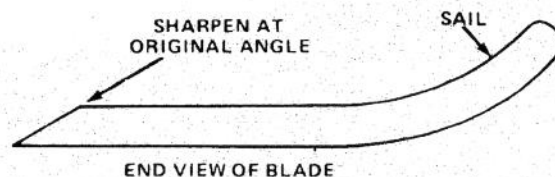

Figure 32
7. Using a file, sharpen cutting edge at both ends of the blade (Fig. 32). File only top side of blade, not the bottom side.